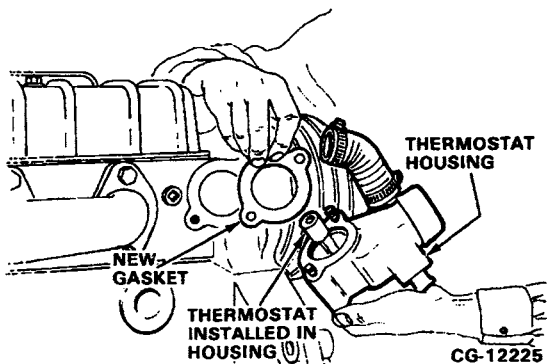

Figure 10.28. Assemble the Thermostat and Housing
1. Install the thermostat into the thermostat housing and place a new gasket onto the housing. Refer to Figure 10.28.